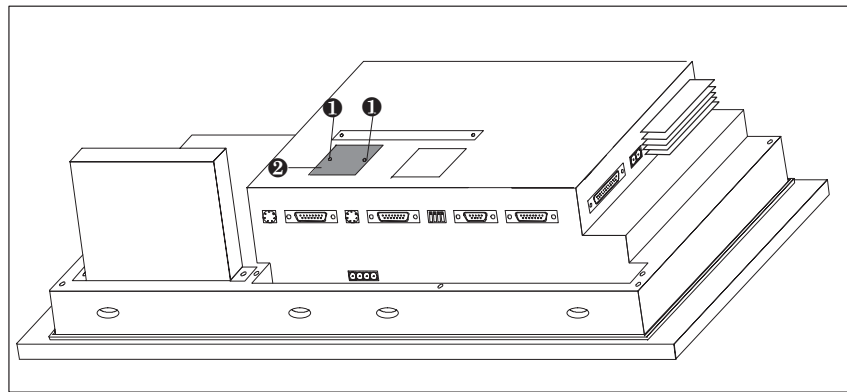

Figure 18-4 Removing the cover (example OP37)
2. Release the two pop rivets **1** and then remove the cover **2** indicated in Figure 18-4 from the rear panel of the OP.